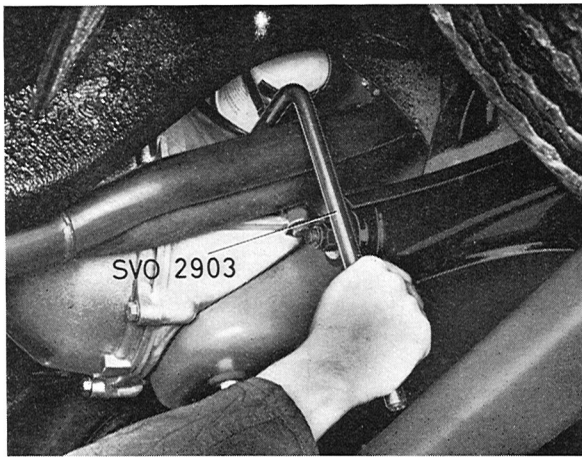

Fig. 2-60. Removing oil filter
1. Remove the old filter with an oil filter wrench, see Fig. 2-60.